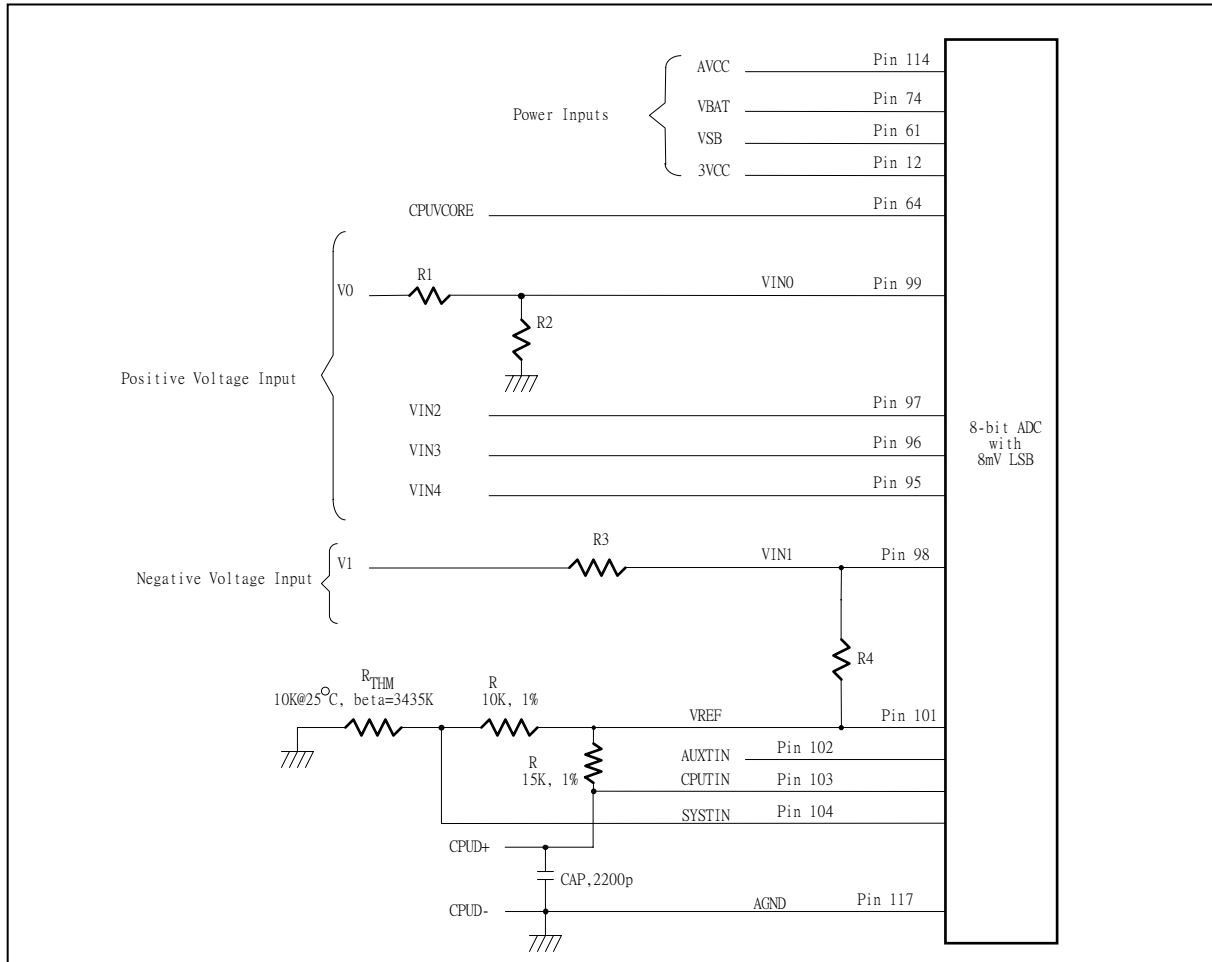

Figure 6.2
The maximum input voltage of the analog pin is 2.048V because the 8-bit ADC has a 8mV LSB. Really, the application of the PC monitoring would most often be connected to power suppliers. The CPU Vcore voltage , battery(pin 74), 3VSB(pin 61), 3VCC(pin 12) , AVCC(pin 114) voltage can directly connected to these analog inputs. The +12V voltage inputs should be reduced a factor with external resistors so as to obtain the input range. As Figure 6.2 shows.
The W83627EHF/EHG can connect three thermistors to measure three different environment temperature. The specification of thermistor should be considered to (1)  $\beta$  value is 3435K, (2) resistor value is 10K ohms at 25°C. In the Figure 6.2, the themistor is connected by a serial resistor with 10K Ohms, then connect to VREF (pin 101).